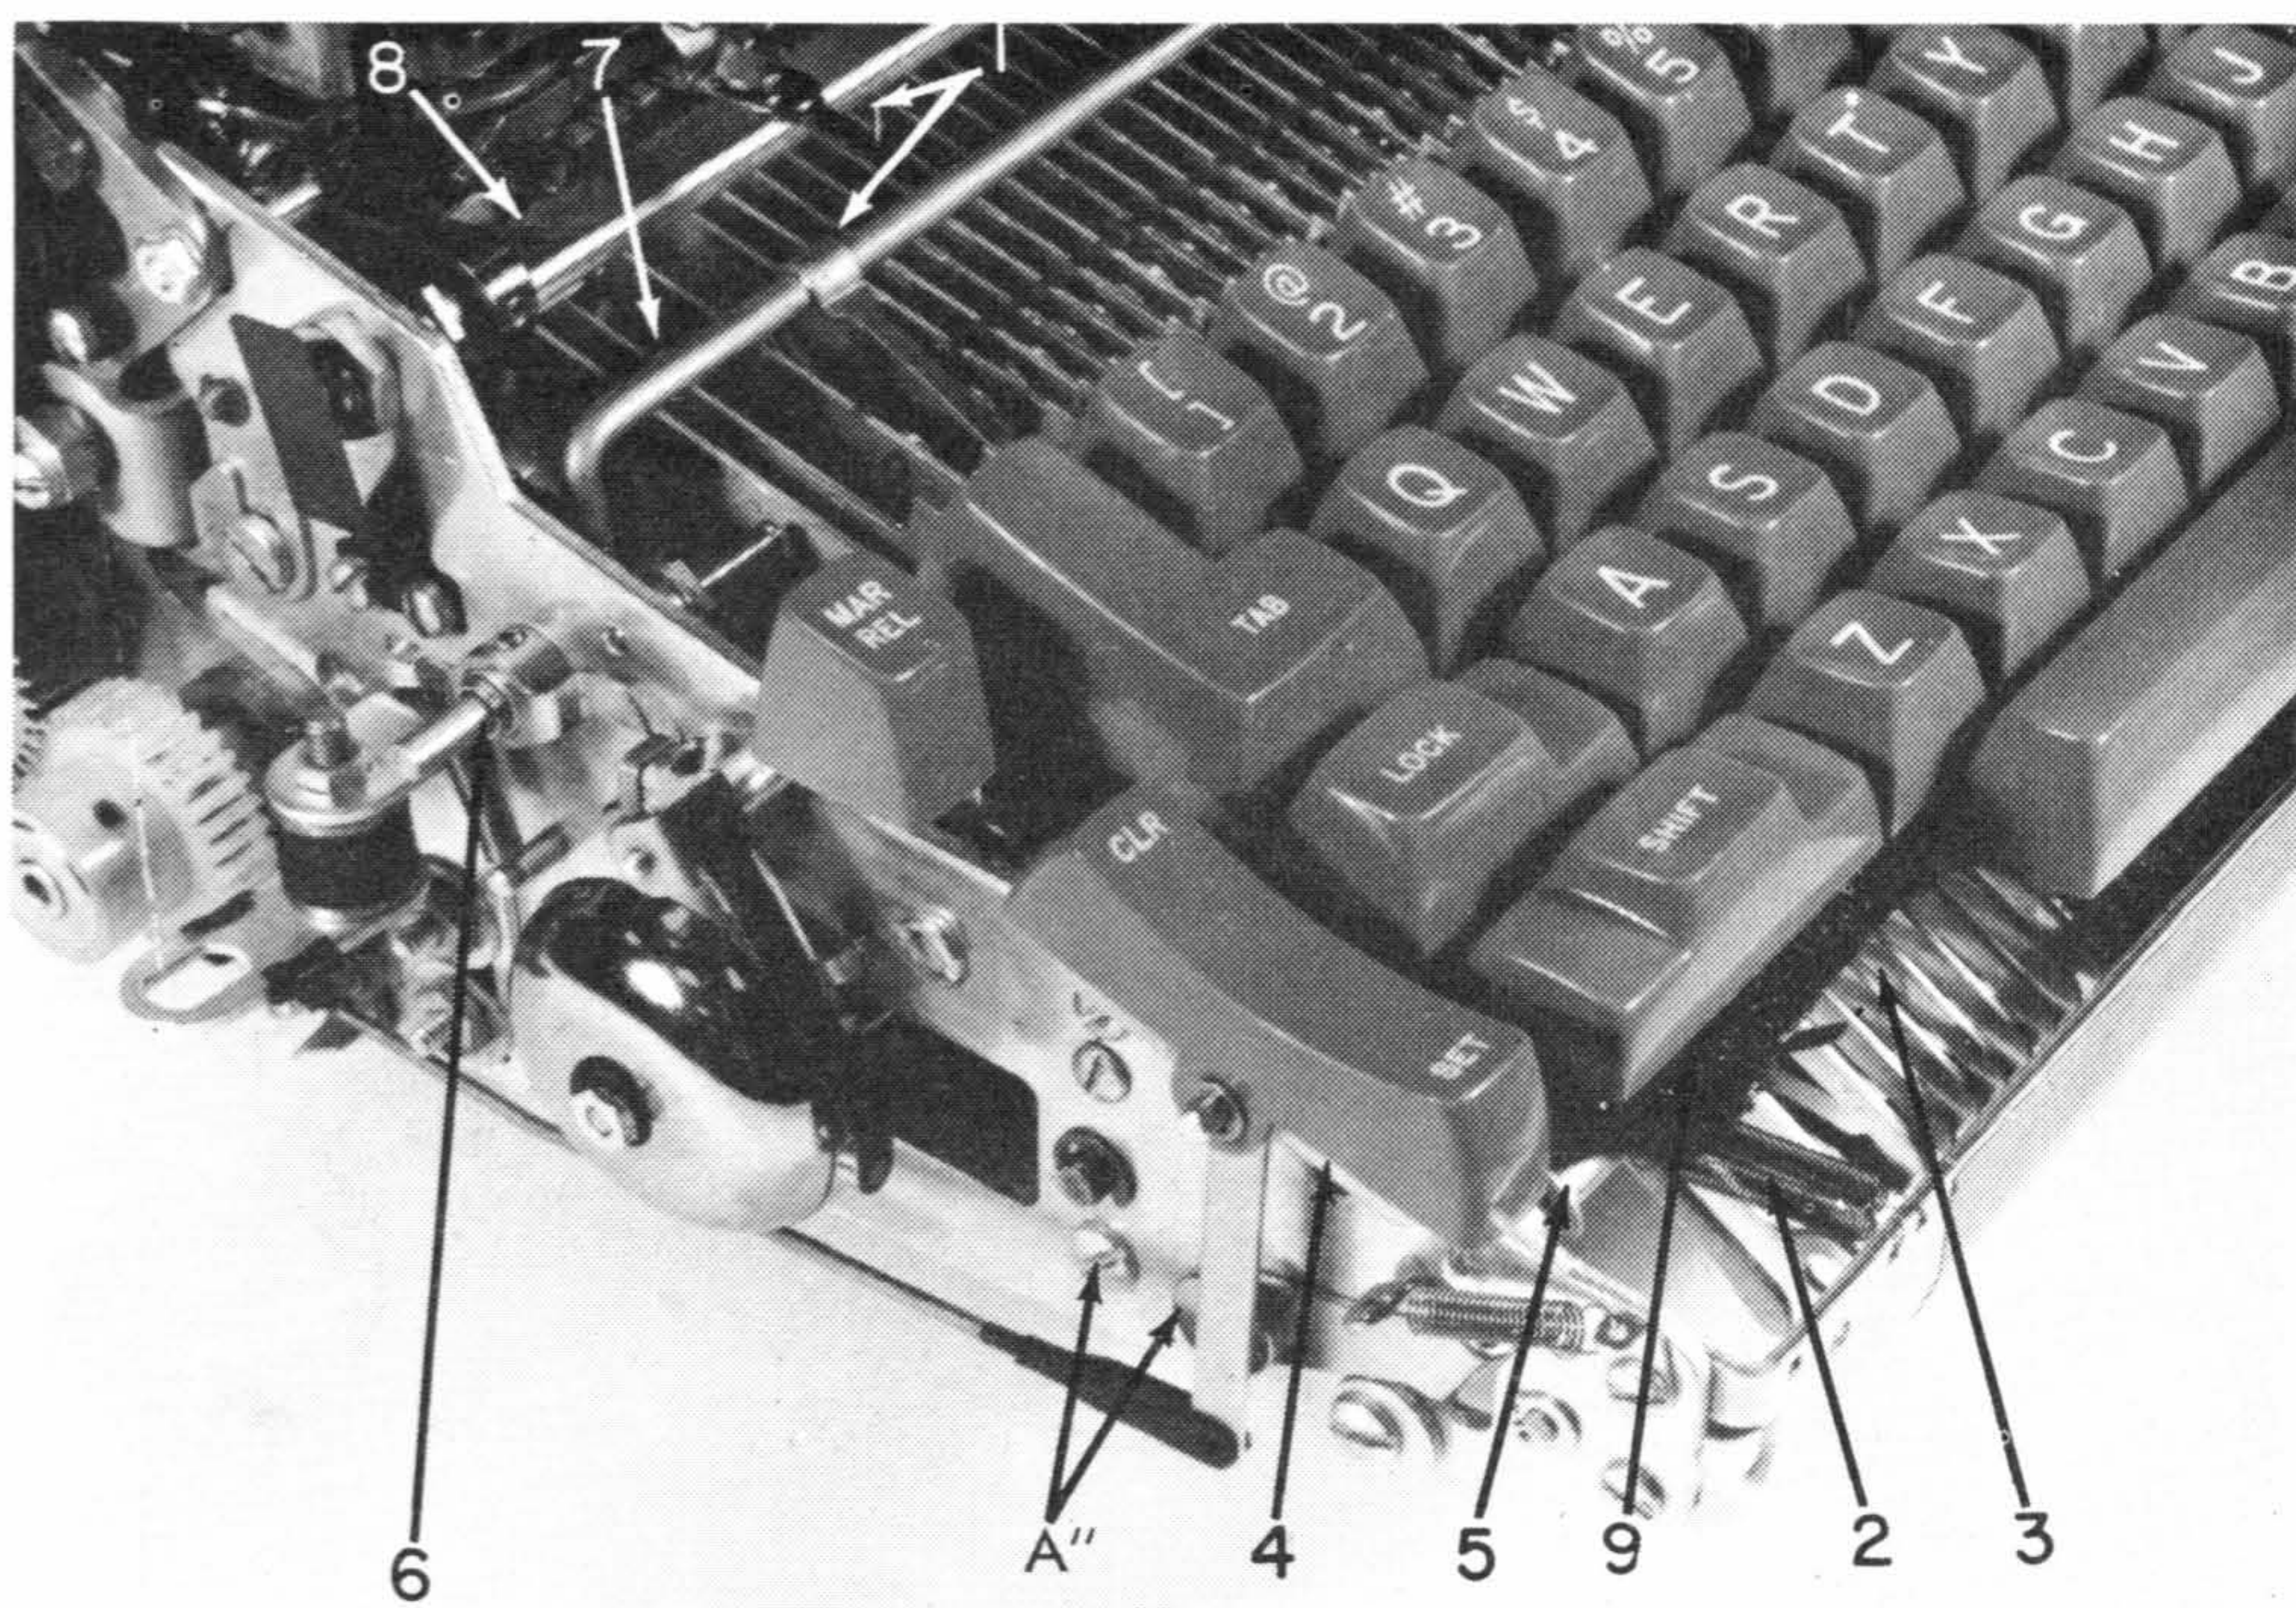

Figure 55. Interposer Removal
1. Align the carrier over the line lock interposer (#1, Figure 55).
2. Disconnect the operational keylever springs, carrier-return spring, and backspace spring (#2, Figure 55).
3. Remove keylever upstop (#4, Figure 55).
4. Remove the spacebar equalizing rod (#5, Figure 55).
5. Remove the bell bail lever (#6, Figure 55).
6. Remove the bell ringer bail (#7, Figure 55).
7. Remove the margin rack (#8, Figure 55).
8. Slip sound deadening over operational keybuttons (#9, Figure 55).
11. To remove the line lock interposer, it is necessary to remove the screws marked "A" on Figure 55 and pull the interposer guide comb support forward (not shown).